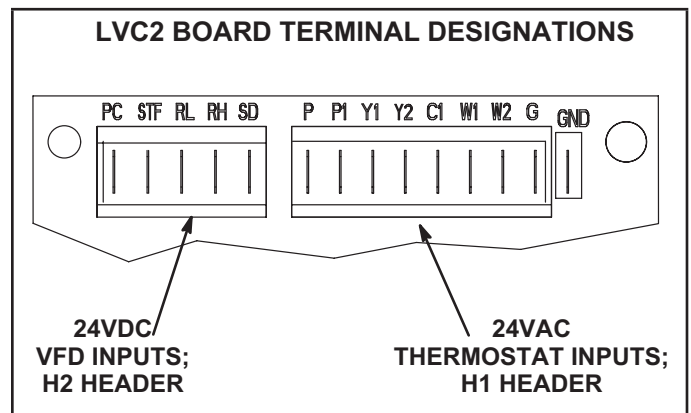

FIGURE 48
- 3 - Check for 24VAC signal at the thermostat blower input (G to GND terminal). See figure 48.